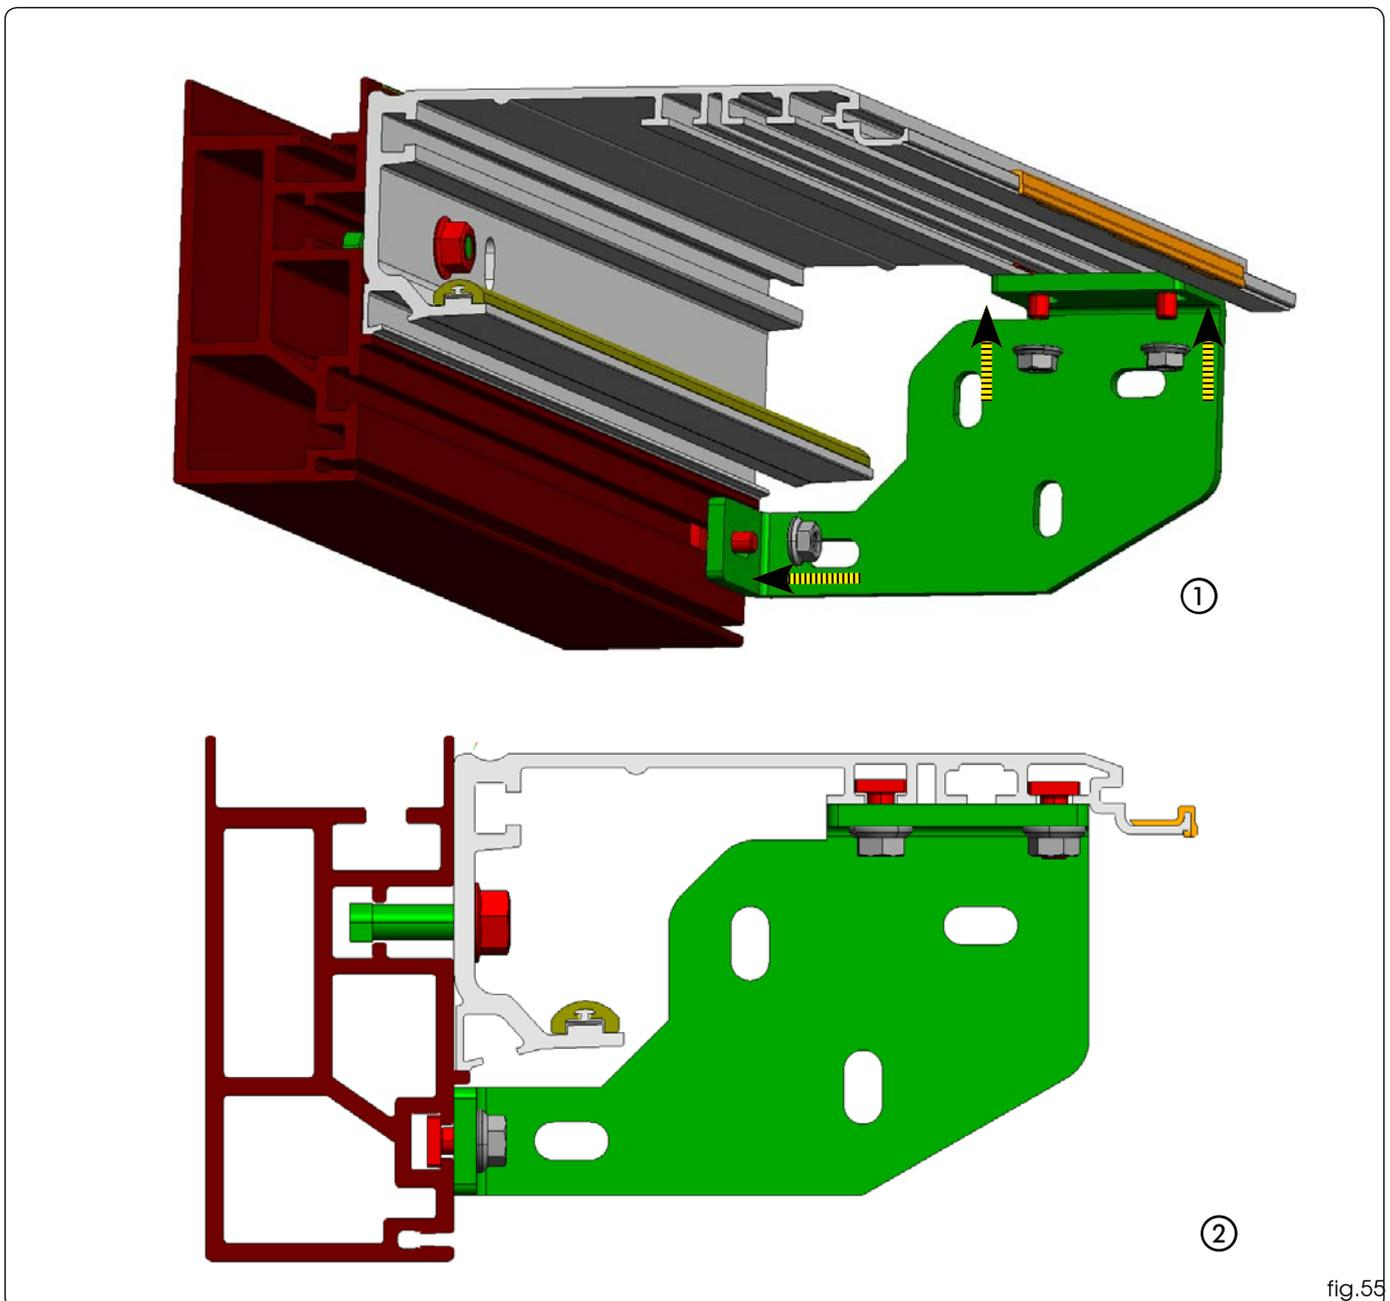

fig.55
• Position the plates in the relevant seats and secure the side plates using the three fastening screws M8, fig.55
The free-standing profile is supplied already assembled to the support profile and with side brackets already fitted on the cross beam fig.55
- Secure the cross beam to the wall using the holes on the side plates (fig. 55. ②) and by means of suitable dowels (not standard-supplied).